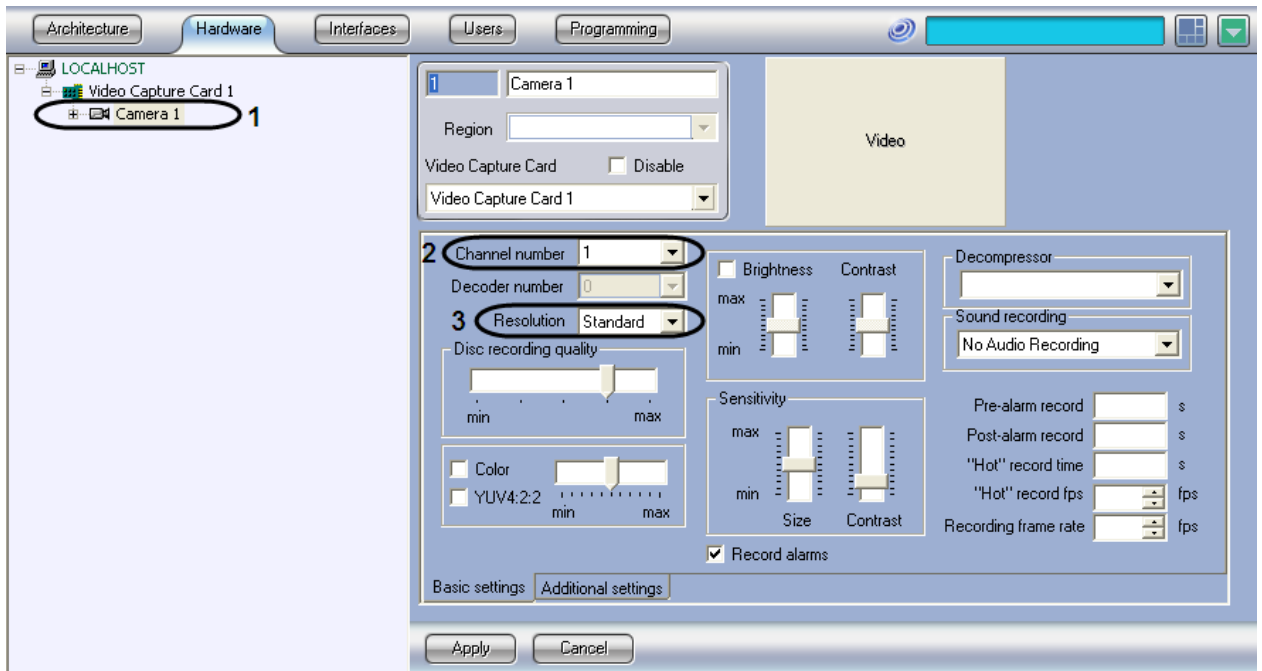
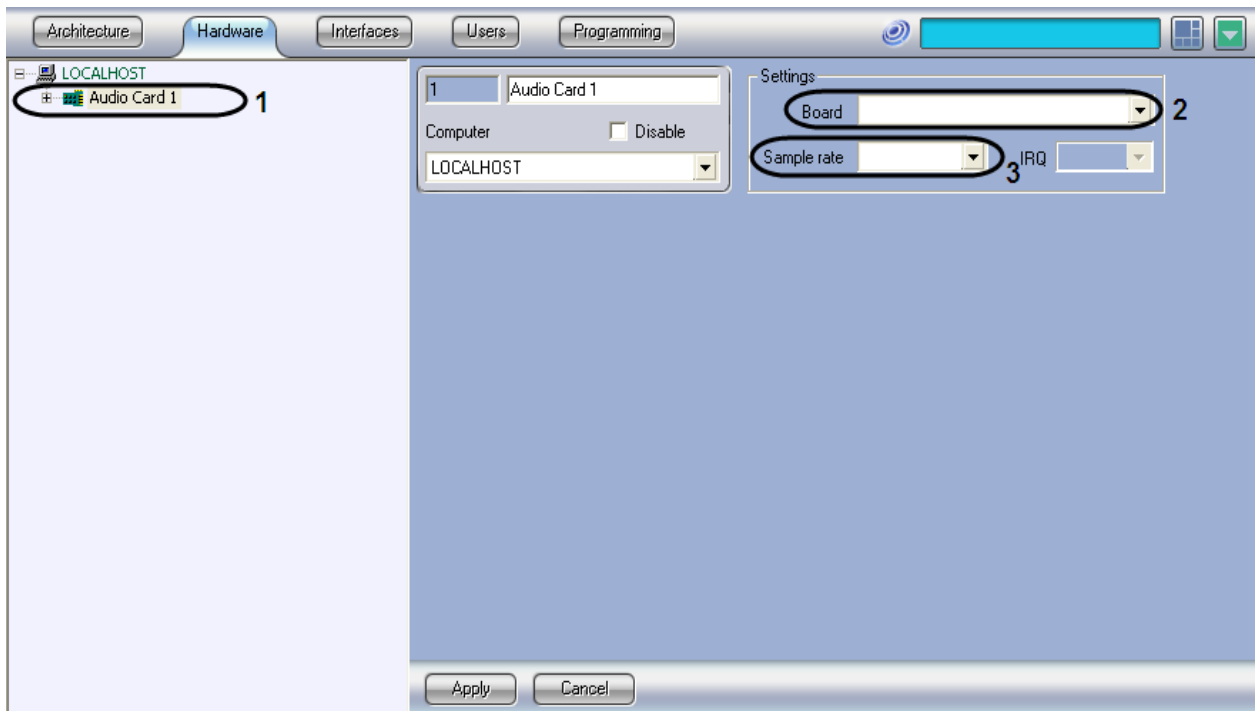

Figure 3.1-7 Configuring the Camera object
Figure 3.1-14 Configuring the Audio card object
3. Select the created **Camera** object in the object tree (Figure 3.1-7, 1).
4.1. From the **Channel number** list (Figure 3.1-7, 2) select a physical video output of the card to which the camera is connected (see *Features of video subsystem configuration* section).
4.2. In the **Resolution** list (Figure 3.1-7, 3) select the resolution: **Standard** – minimum accepted value for the card, High – mean value, Full – maximum accepted value with which a video signal is captured.
4. Select the created **Audio card** object in the object tree (Figure 3.1-14, 1).
- 5.1. In the **Board** list (Figure 3.1-7, 2) specify the type and PCI channel of the card (Figure 3.1-14, 2). Between the **Audio cards** objects there is end-to-end distribution of PCI channels that starts with '0'.
- 5.2. In the **Sample rate** list select the audio sample rate (Figure 3.1-14, 3).